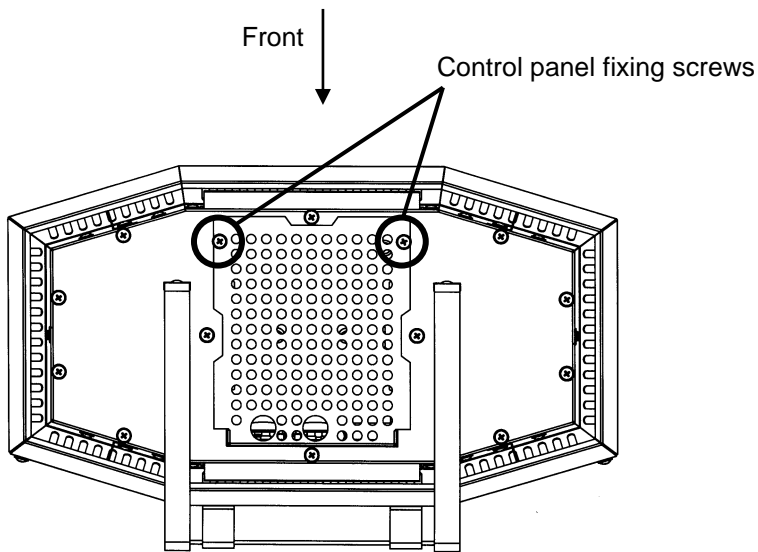

Fig.4
- Remove the control panel from the Saunaheater. For this purpose, unscrew the two cross-head screws at the bottom (see Fig.4).